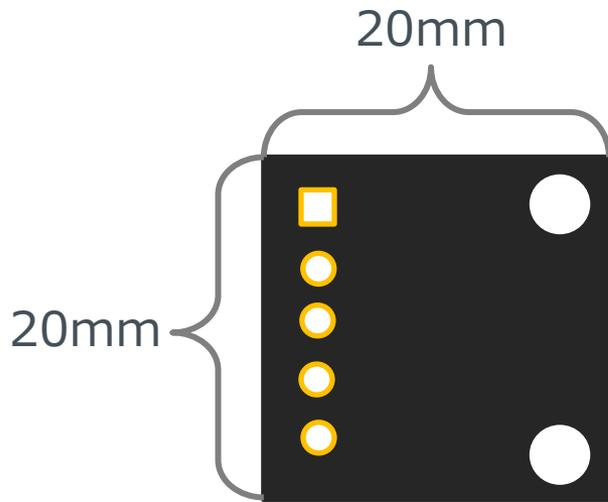

Fig.1
- Through Hall: I/F pin, VDD and GND Pin (Fig.1)